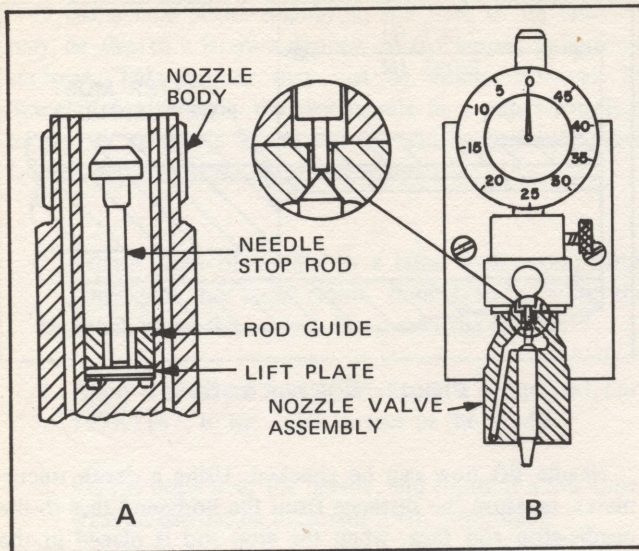

FIG. 13. PREPARATION FOR MEASURING NEEDLE LIFT.
1. Install a new lift plate, rod guide and needle-stop rod in the nozzle body cavity. Do not install the nozzle spring. See Fig. 13-A.
2. While holding the needle against the valve seat, place the anvil into the outlet of the nozzle to contact the needle point. Zero the gage. See Figs. 13-B and 15.